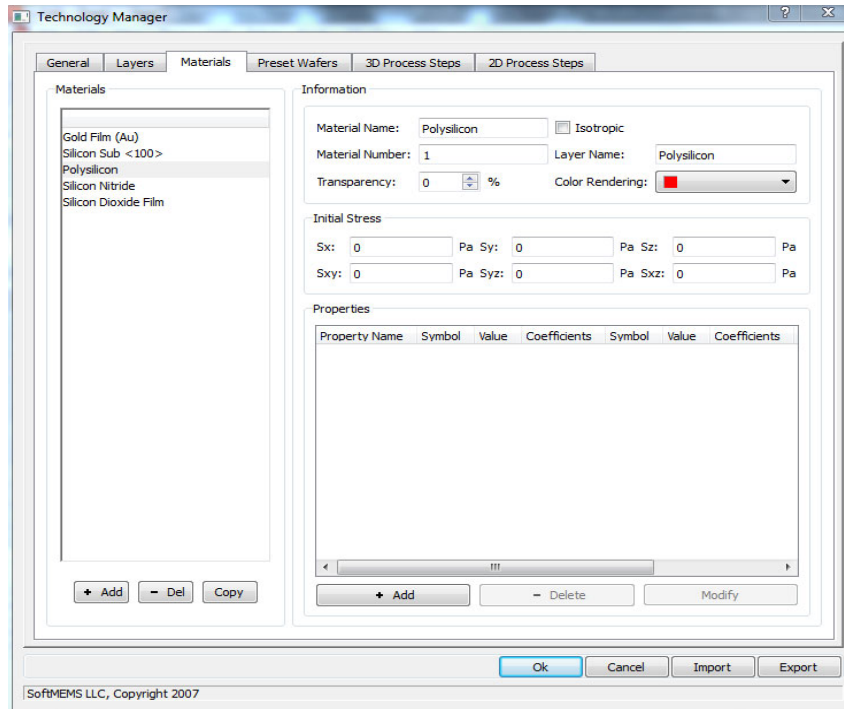

Figure 155: Material Database dialog.
- ☑ From the **MEMS Pro Toolbar**, select **«Edit Material Database»** from the **«3D Tools»** menu to display the **Material Database** dialog, as shown in (Figure 155).